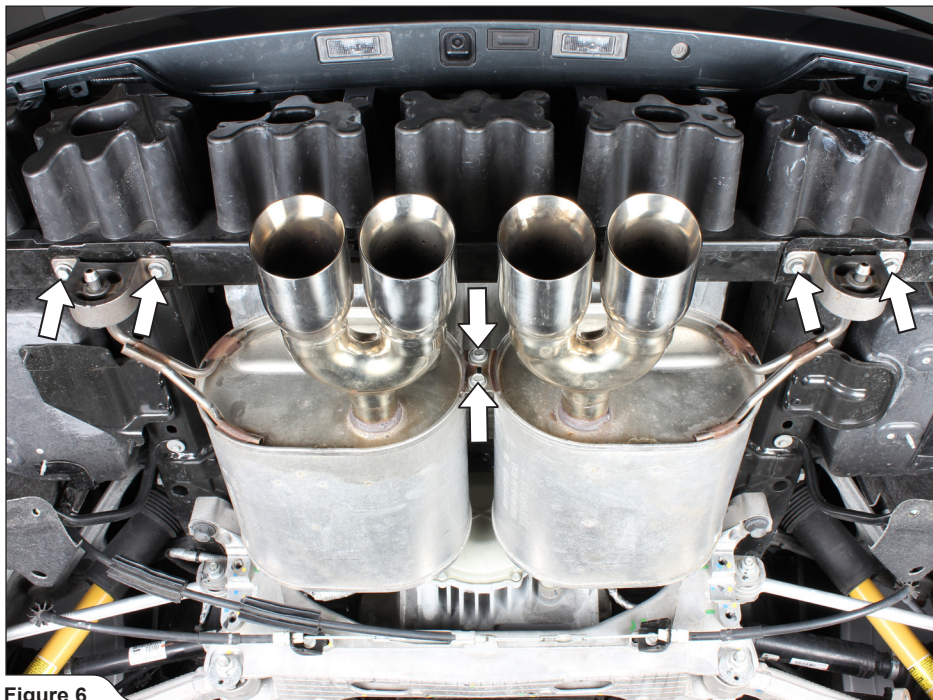

Figure 6
6. Unscrew the mufflers' connection bolts and mufflers' rubber brackets off the chassis (**Figure 6**).